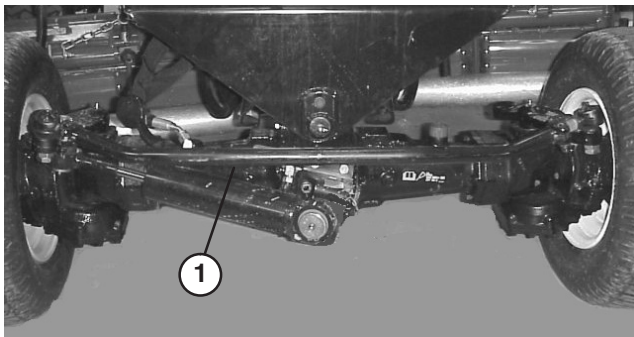

Figure 70
3. Loosen clamps on both ends of tie rod (Fig. 70).